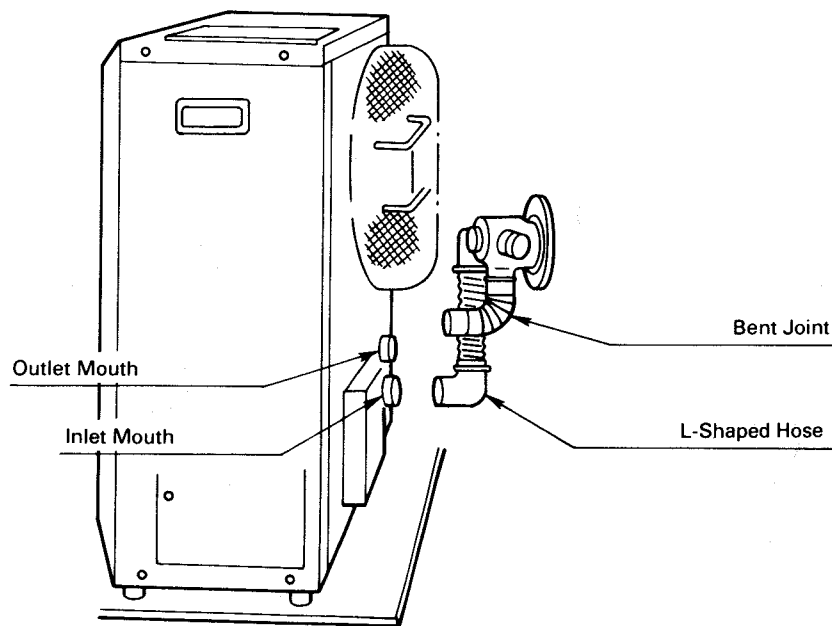

Fig. 12
8. Move the heater into position. Connect the bent joint to the exhaust outlet mouth (upper opening) and attach the L-shaped hose to the intake inlet mouth. Make sure all connections are tight (See Fig. 12).